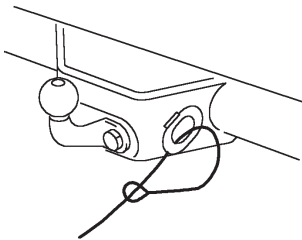

Fig 1
- a) Pass the cable through the attachment point and clip it back on itself (Fig 1).